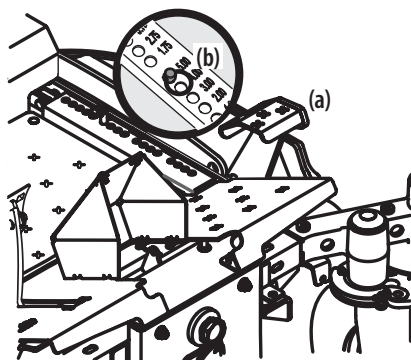

Figure 1
2. Use the deck lift pedal (a) to raise the deck to its highest position and secure in place with the clevis pin (b) attached to the mower. See Figure 1.